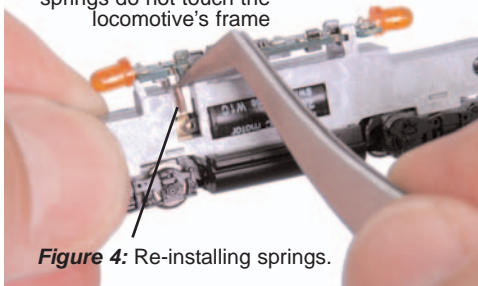

Figure 4: Re-installing springs.
5. As shown in **Figure 4** reinstall the motor springs, **taking care to insure the springs do not touch the loco frame.** Finally reinstall the locomotive shell.